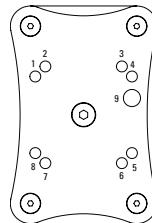

Figure 4
6. Fasten the accessory device or cradle to the top of the Mounting Plate (**Figure 4**) utilizing appropriate hardware. The eight "AMPS" pattern holes (1-8) will accommodate #8 or M4 screws. The larger hole (9) will accommodate a  $1/4$ " or M6 screw. Alternatively, double sided adhesive tape or hook and loop fastener may be used.